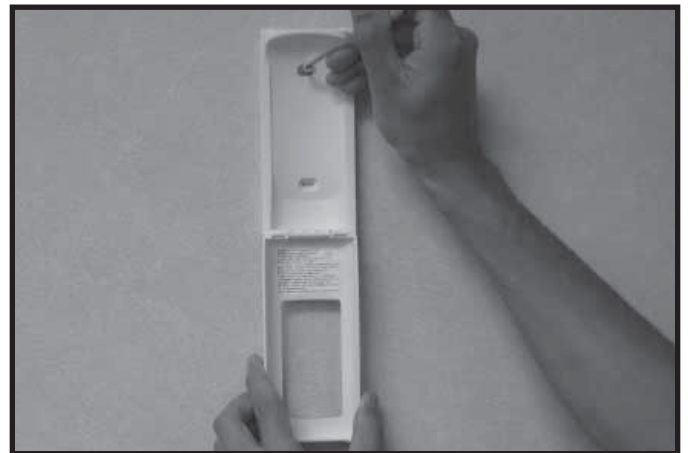

Figure 12.6 Mounting Remote Control Housing
3. Secure the remote control housing on a flat wall surface using the two screws and wall anchors provided. See Figure 12.6.